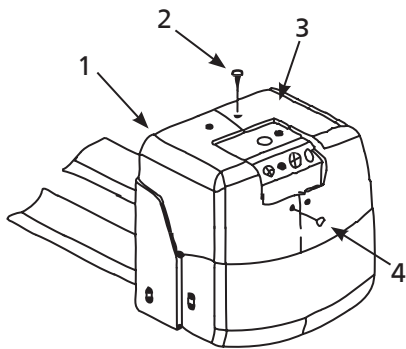

Figure 8 – Cover and Screw Locations
- Remove the four screws (2) and (4) securing the cover. See Figure 8.
- Open the left and right half cover (1) and (3).